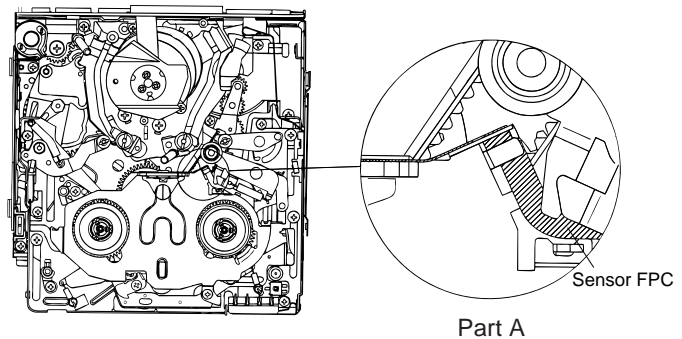

Fig. 6. Sensor FPC wiring
- When treating the sensor FPC wire, pay attention to the part A shown in Fig. 6.